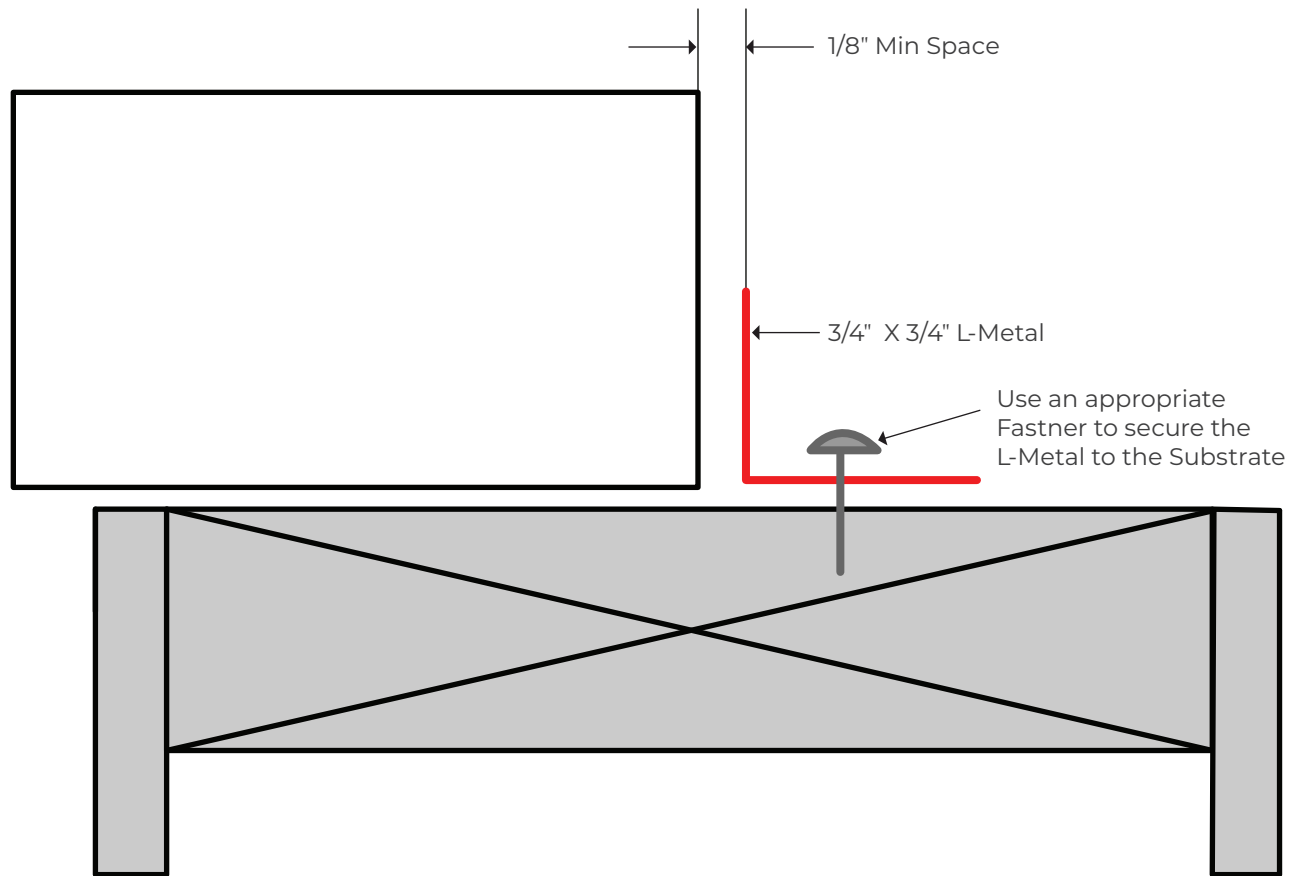

Fig. 23
- Install 3/4" x 3/4" aluminum L-metal the full length of the sill as the raised leg of the liquid applied flashing pan. **See Fig. 23.**